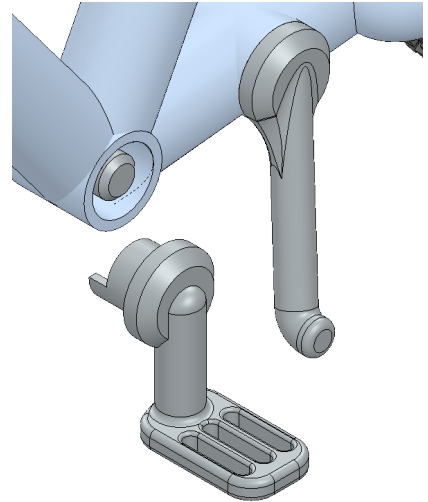

Fig. 18
Step 2. Open **PETAL** file and place, **Fig. 18**.